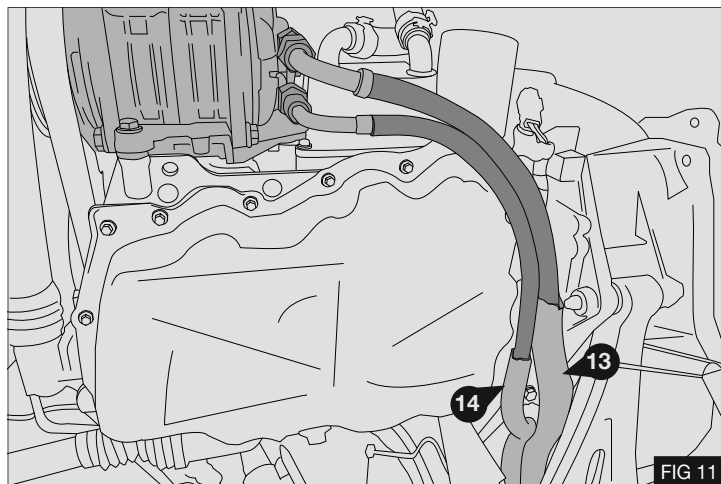

FIG 11
3. Fit the heat shields (13) and (14) to the refrigerant hoses.
4. Connect the hoses to the compressor. Route hoses as indicated with the heat shields positioned as shown. - Fig 11